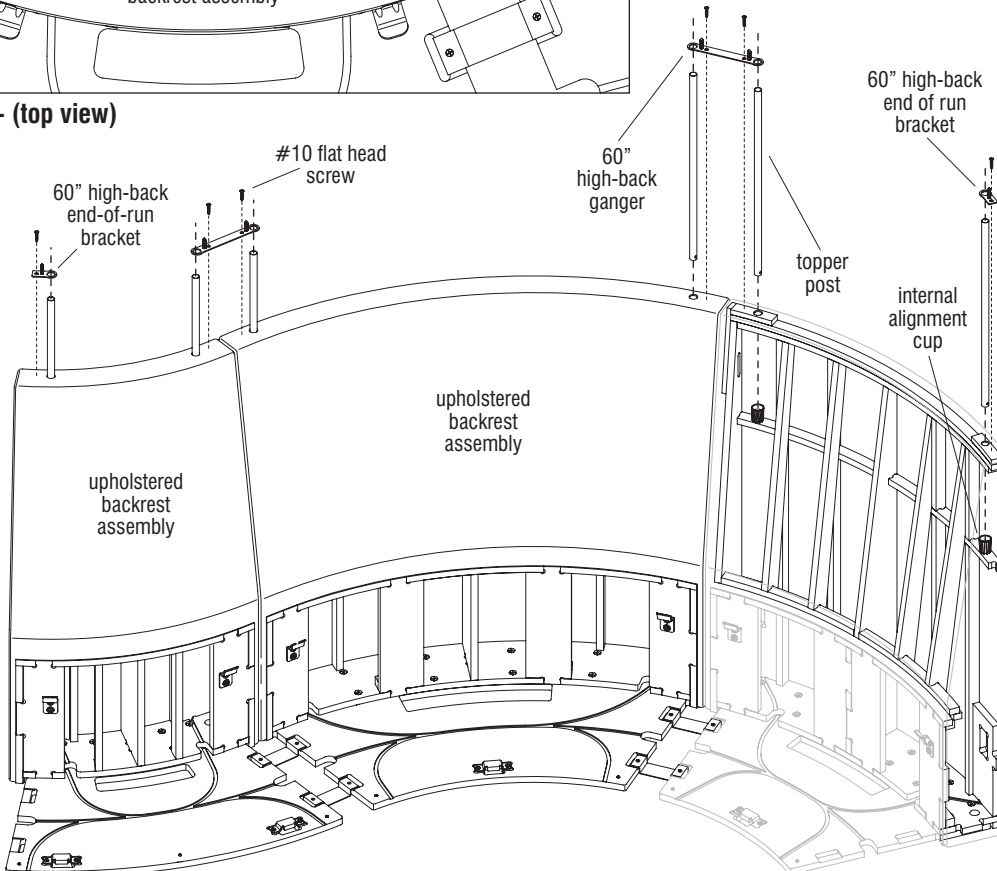

Figure 1
5. Orient the 60" high-back end-of-run brackets so the side of the bracket is parallel with the lounge backrest and the screw mounting hole is closest to the end of the lounge unit as illustrated in Figure 1 & Detail C. If brackets are not installed correctly, the upholstered headrest topper will not fit on top the upholstered backrest assembly properly and disassembly and reassembly will be required.
8. Secure the end of run brackets and lounge gangers to the backrest using #10 flat head screws through each countersunk hole on the brackets/gangers (Figure 1).